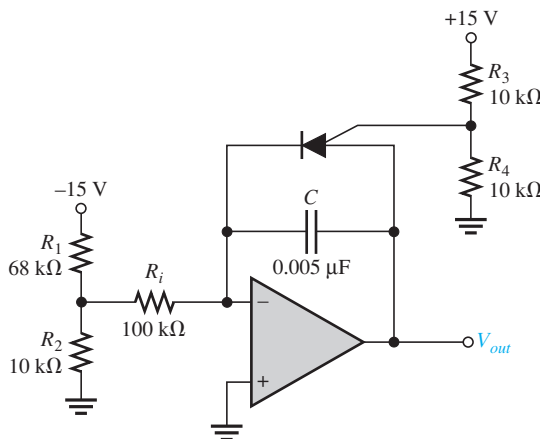

FIGURE 10-32
- (a) Find the peak-to-peak amplitude and frequency of the sawtooth output in Figure 10-32. Assume that the forward PUT voltage, V_F , is approximately 1 V.